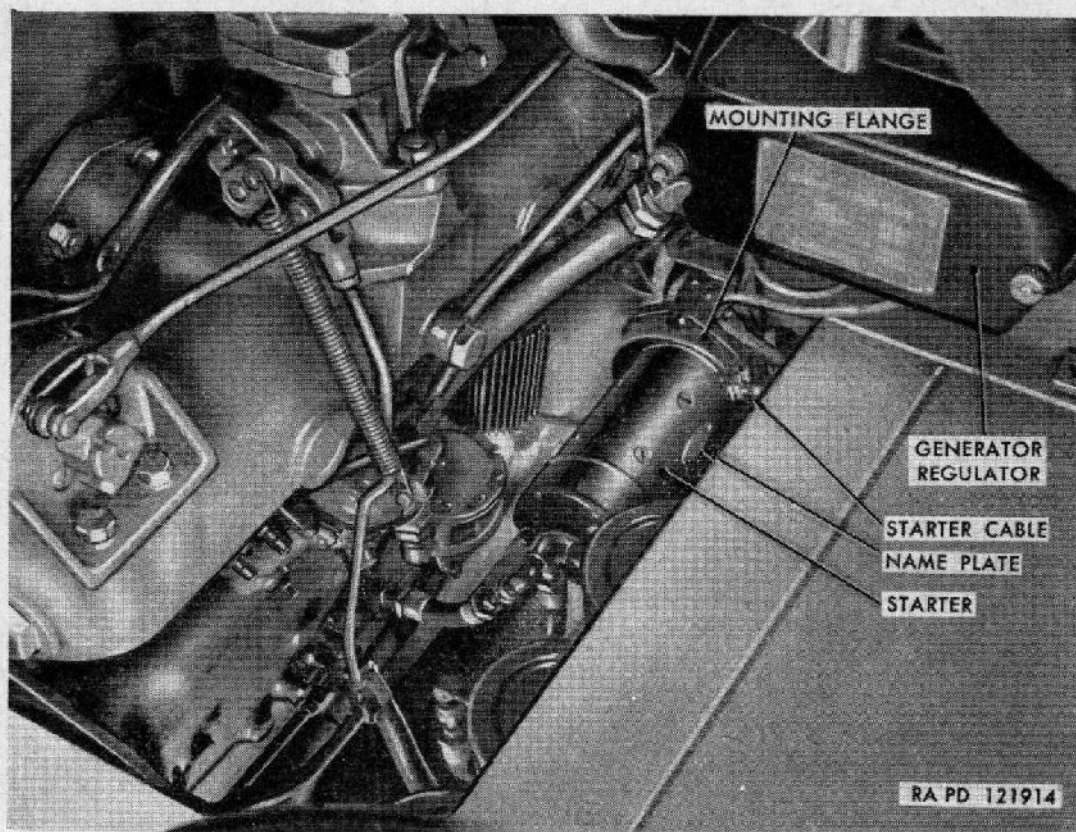

Figure 67. Starter installed.
- (2) *Starter.* Each engine is provided with its own starter (fig. 67). These starters are the same except for their mountings, which are different due to the starter being on opposite sides of the engines. Each starter has a Bendix drive operated by starter solenoid and uses internal reduction gears. The Bendix drive provides automatic meshing of the driving pinion with gear on flywheel, when the starter switch is closed and the starter solenoid is energized. When the engine starts, the drive pinion is automatically disengaged.
a. Removal. Remove seats from rear compartment and raise hinged floor plate. Remove nut and lift starter cable from terminal on the starter (fig. 67). Tape end of cable to prevent its touching metal parts of vehicle. Remove the three cap screws from the starter mounting flange and flywheel housing (fig. 67). Jar starter loose and lift it from flywheel housing.